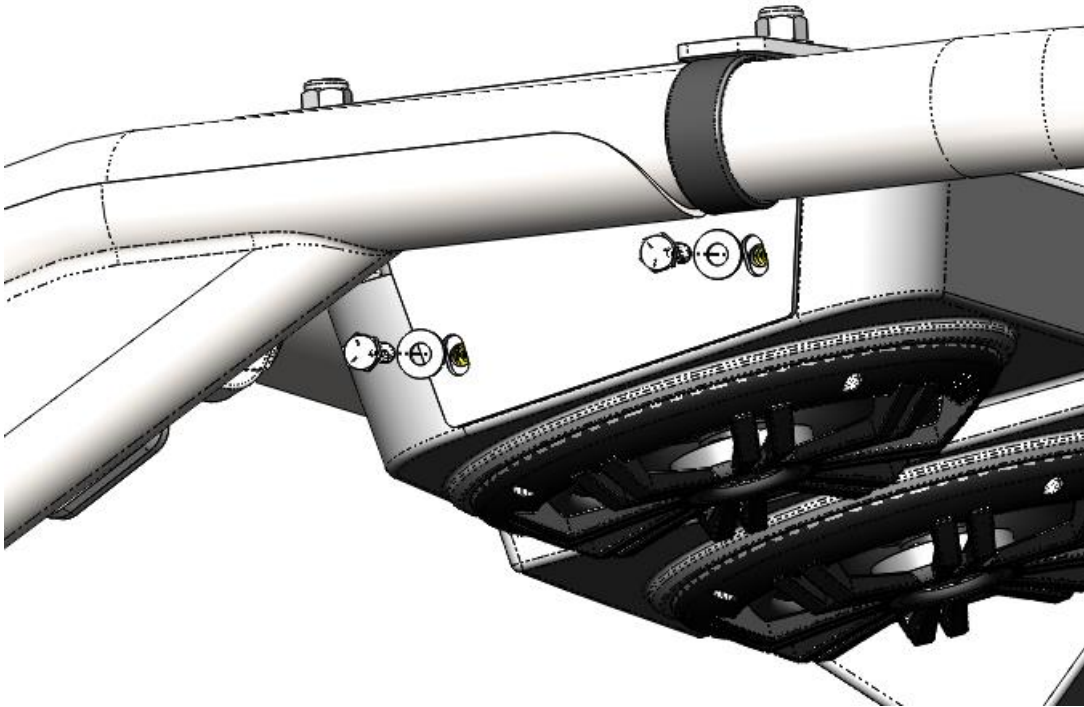
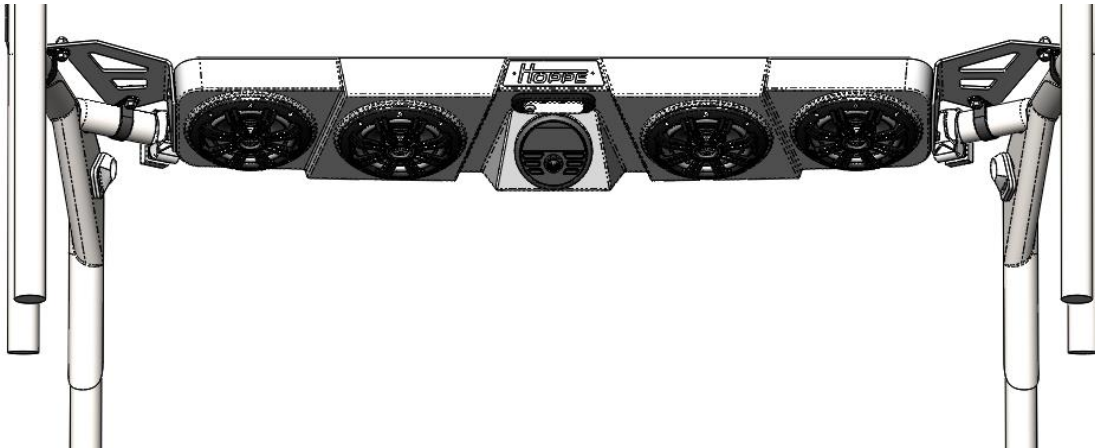

Figure 4: Install the 1/4\"-20 bolts and washers to mount the Audio Mini to the brackets.
Figure 5: Loosely install the sound system on the mounting brackets.
3. Using an assistant, hang the *Audio Mini* off-road sound system on the brackets using the supplied $1/4''-20$ bolts and washers (loosely tightened). **Note: The sound system weighs up to 25 lbs. Since you will have to lift and bolt each end, it is helpful to have an assistant for this step.** See Figure 4 and Figure 5.